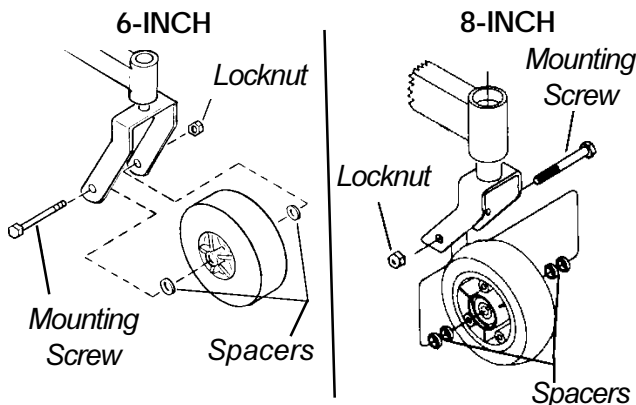

FIGURE 3 - REMOVING/INSTALLING CASTERS
**REMOVING/INSTALLING CASTERS (FIGURE 3)**